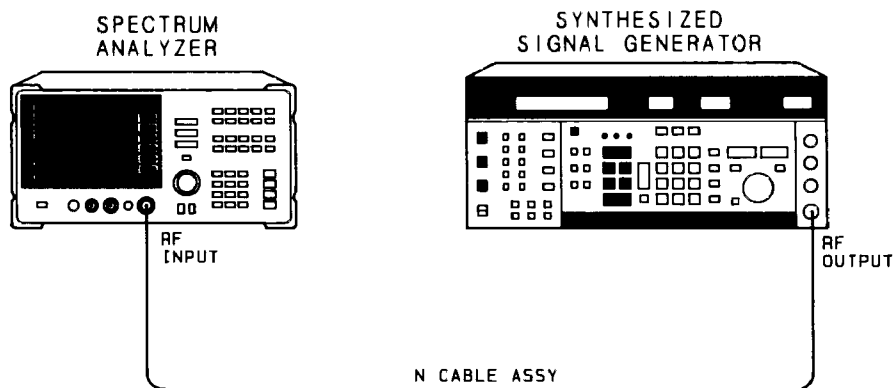

Figure 3-10. Noise Sidebands Test Setup
1. Connect the equipment as shown in Figure 3-10.